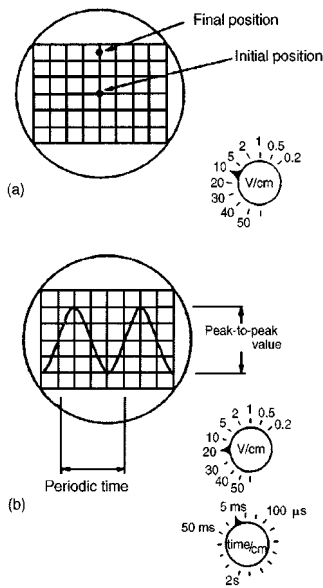

Figure 10.14
- (i) With **direct voltage measurements**, only the Y amplifier 'volts/cm' switch on the c.r.o. is used. With no voltage applied to the Y plates the position of the spot trace on the screen is noted. When a direct voltage is applied to the Y plates the new position of the spot trace is an indication of the magnitude of the voltage. For example, in Fig. 10.14(a), with no voltage applied to the Y plates, the spot trace is in the centre of the screen (initial position) and then the spot trace moves 2.5 cm to the final position shown, on application of a d.c. voltage. With the 'volts/cm' switch on 10 volts/cm the magnitude of the direct voltage is $2.5\ \text{cm} \times 10\ \text{volts/cm}$, i.e. 25 volts.
- (ii) With **alternating voltage measurements**, let a sinusoidal waveform be displayed on a c.r.o. screen as shown in Fig. 10.14(b). If the time/cm switch is on, say, 5 ms/cm then the **periodic time T** of the sinewave is $5\ \text{ms/cm} \times 4\ \text{cm}$, i.e. 20 ms or 0.02 s. Since frequency